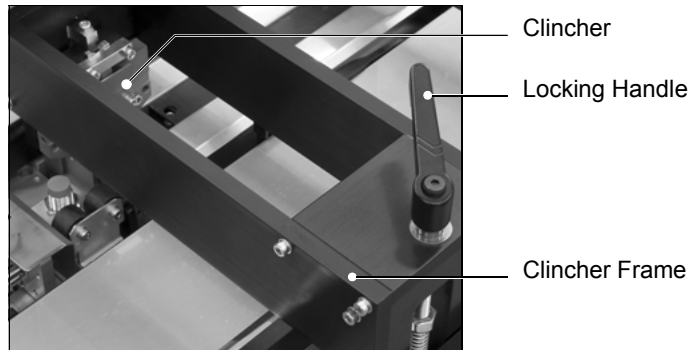

FIGURE 14. Clincher Frame Components
**CAUTION:** Check that the folder cover will not hit the clincher frame locking-handle when you close the folder cover. If necessary, lift and rotate the clincher frame locking-handle to a new position (See Figure 14).